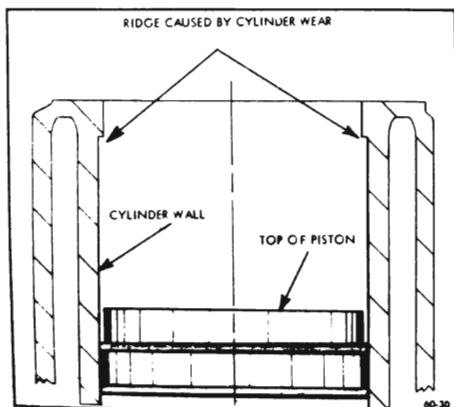

Figure 60-136 - Ridges Worn by Ring Travel
2. Examine the cylinder bores above the ring travel. If bores are worn so a shoulder or ridge exists at this point, remove the ridges with a ridge reamer to avoid damaging rings or cracking ring lands in pistons during removal. See Figure 60-136.